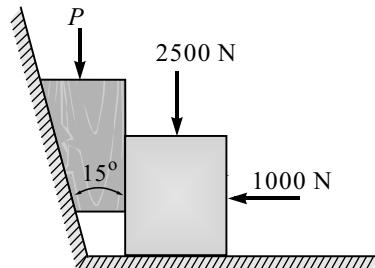

Fig. 8.E35
36. Calculate the force P required to initiate the motion of the 24 kg block up the 10° incline, as shown in Fig. 8.E36. The coefficient of static friction for each pair of surfaces is 0.3. Assume $g = 10 \text{ m/s}^2$.